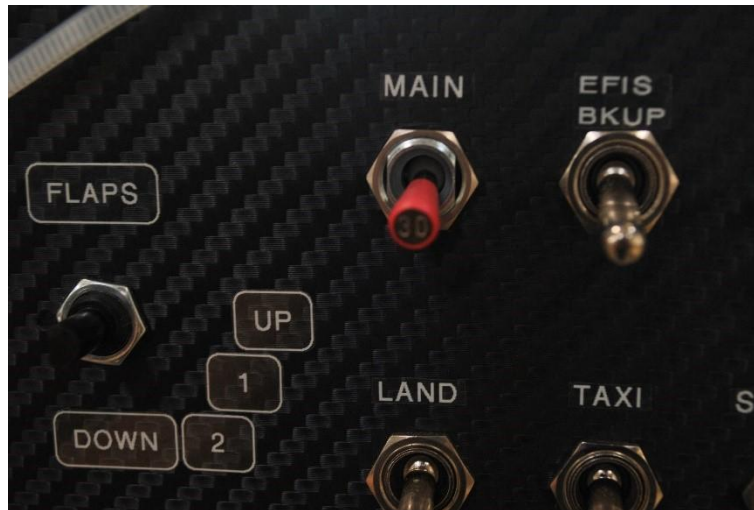

Figure 1: Master Switch Installed
4. Loosen and remove the nuts on the master switch, push the master switch through the back of the panel so as to have the switch point out from the instrument panel, make reference to figure 1 below.